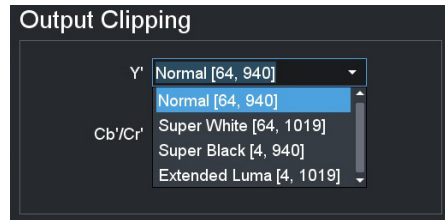

Figure 25 Example of Video Correction > SDR/HDR Conversion > Output Clipping
**Figure 25** shows the Output Clipping > Y' settings.